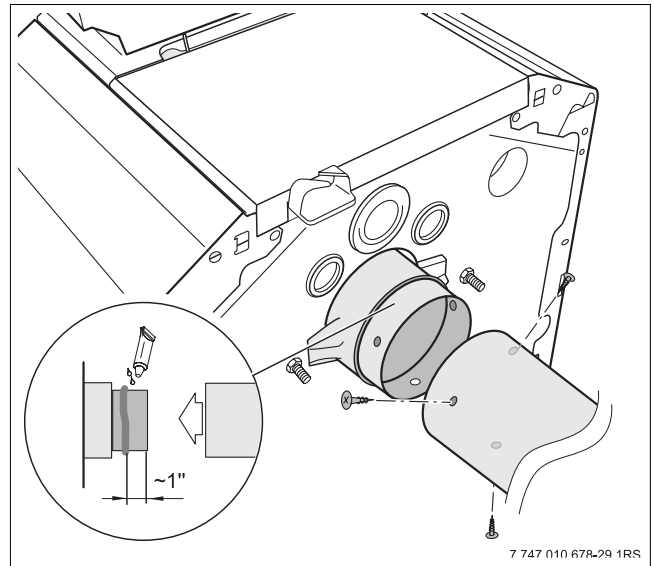

Fig. 19 Boiler exhaust pipe
- Apply a ¼" wide bead of high temperature silicone (500°F rated silicone, G.E. 106 or equivalent) all around the boiler vent connection (breech) 1" from the end (→ Fig. 19, page 26).